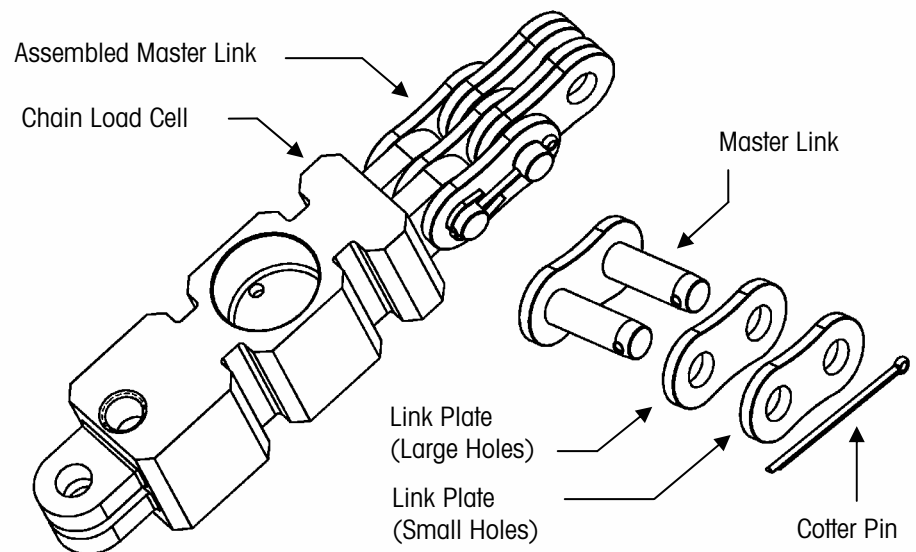

Figure 2-8: Connect Chain to Load Cell with Master Link
6. Use a master link to connect each chain to one of the chain load cells on the scale carriage. Assemble the master link as shown in Figure 2-8. Using a C-clamp or similar device, press the master link assembly together just enough so that you can insert the cotter pin in the holes. If the link is too tight, it can bind against the load cell and chain mount. If the link does not rotate freely on the load cell or chain, press the master link back through the link plates until it rotates freely.